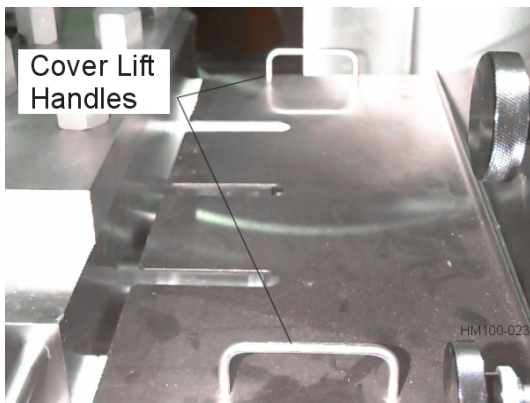

Figure 28 Location of Cover Lift Handles
6. Remove plunger/cylinder guard cover (lift up). See Figure 28.